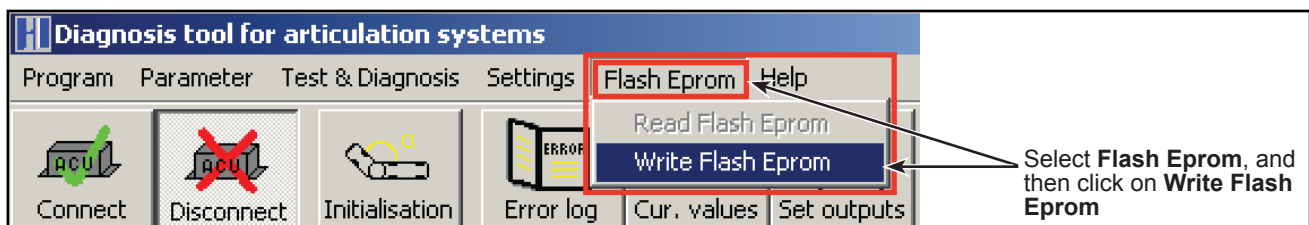

Figure 5 - Steps to Download
- 1.10. Select **FLASH EPROM** (see Figure 5).
1.11. Select **WRITE FLASH EPROM** from the dropdown menu (see Figure 5).